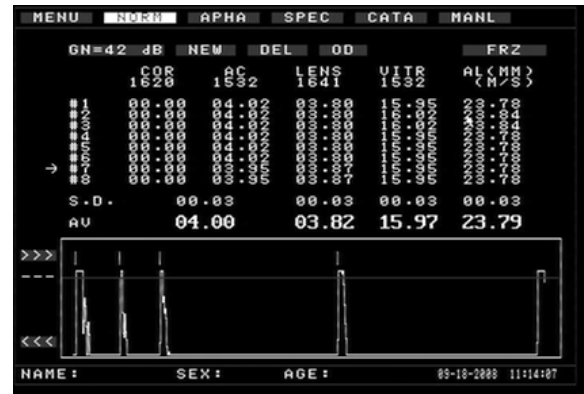

Fig 4-12
- (1) Press **A** to enter A mode;
- (2) Choose measuring mode: (NORM, APHA, SPEC, CATA);
- (3) Place A probe onto patient's cornea, start foot switch and undertake an automatic measurement;
- (4) When standard deviation, S.D, is not clinically satisfied, Five-Point marking can be corrected.
- (c) Move the cursor to A curve at the bottom of the screen, press **L** key of the trackball to mark the five points, (if it is hard to recognize vertex and back of cornea, points (1) and (2) can both be put on (1));
- (d) After marking the 5th point, the measurement result, average of axial length and S.D will all be recalculated according to the new marking. See Fig 4-12.